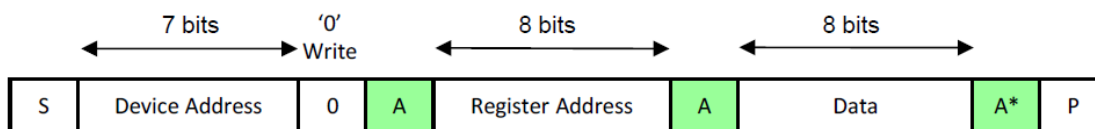

Figure 4. I²C Write – Slave Receiver Mode
1. Slave Receiver Mode (Write Mode): Serial data and clock are received through SDA and SCL. After each byte is received an acknowledge bit is transmitted. START and STOP conditions are recognized as the beginning and end of a serial transfer. Address recognition is performed by hardware after reception of the slave address and direction bit (see Figure 4 for Interface). The slave address byte is the first byte received after the master generates the START condition. The slave address byte contains the 4-bit WL2866 address followed by the direction bit (R/W), which, for a write, is 0. After receiving and decoding the slave address byte the device outputs an acknowledge on the SDA line. After the WL2866 acknowledges the slave address + write bit, the master transmits a register address to the WL2866. This sets the register pointer on the WL2866. The master may then transmit zero or more bytes of data, with the WL2866 acknowledging each byte received. The address pointer will increment after each data byte is transferred. The master generates a STOP condition to terminate the data write.